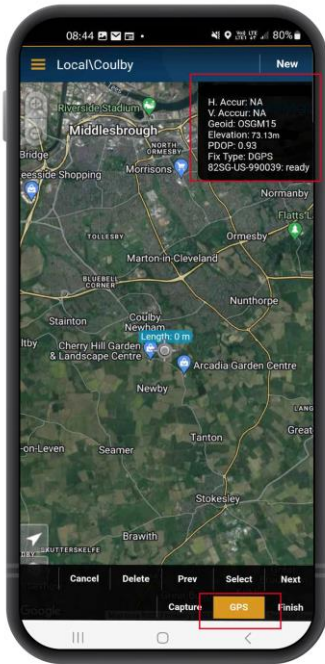

Figure 1a.
1. Ensure the GNSS device in the locator has access to GNSS satellites (see figure 1a and 1b on following page).